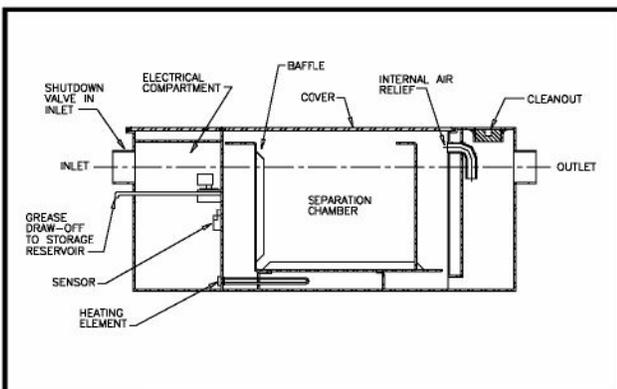

Figure 12: Sensor controlled Grease Recovery Device (GRD)
2. Sensor controlled - See Figure 12.